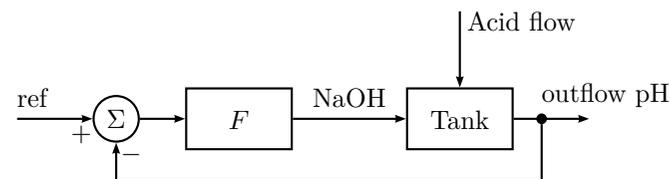

Figure 2.11a
b) A block diagram where the control strategy is based on feedback could look like Figure 2.11a